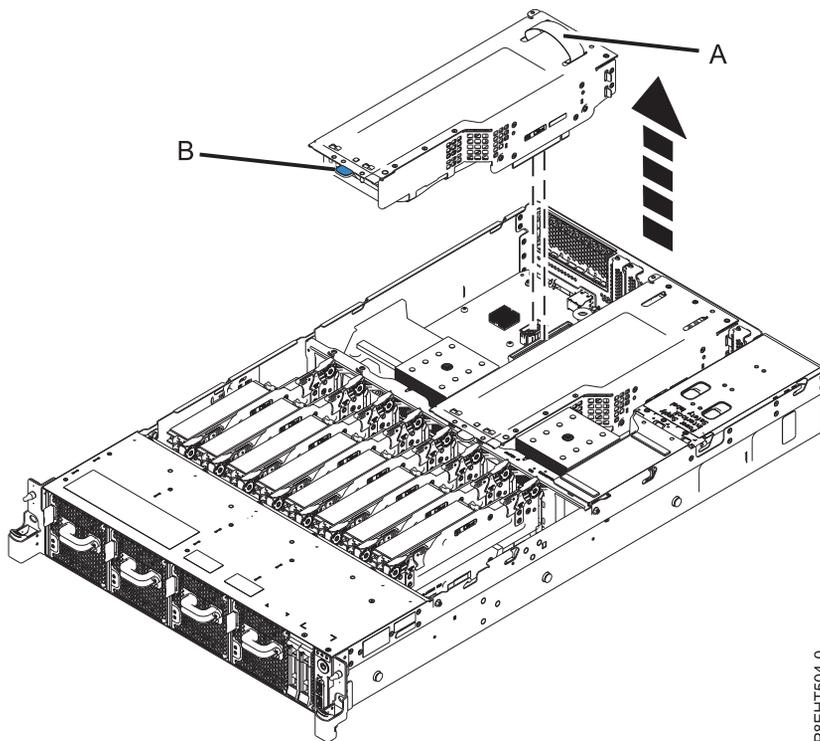

Figure 39. Removing the PCIe riser
- Using the blue strap and the blue touchpoint, remove the PCIe riser from the system. See Figure 39.